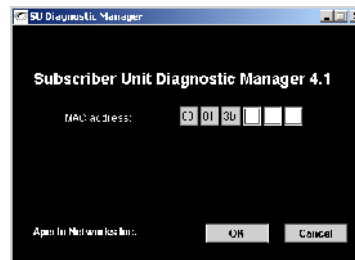

Figure C-1 Opening Diagnostic Manager Window
2. Click on the Diagnostic Manager icon on the desktop to launch the utility. The window shown in Figure C-1 will be displayed.